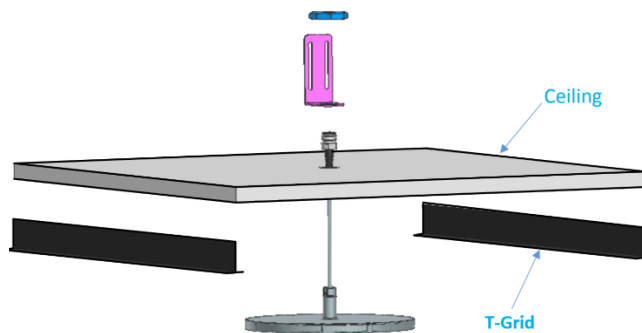

Fig 3 Pre-assemble the antenna and the antenna bracket.
3. Pre-assemble the antenna bracket (4) and the antenna (1) & (2) with the acoustic ceiling board and then install the assembly onto T-Grid as shown below picture Fig 3